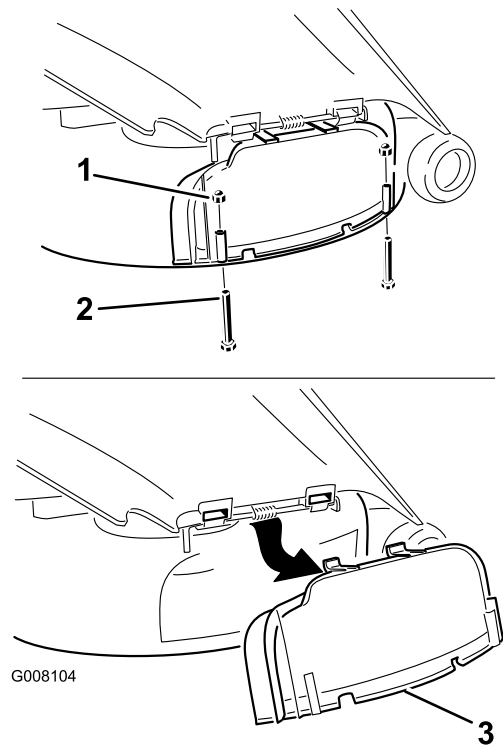

Figure 25
3. Remove the two bolts (1/4 x 2-1/2 inches) and two cap nuts (1/4 inch) that secure the discharge cover to the cutter deck (Figure 25).
4. Remove the discharge cover and lower the grass deflector over the discharge opening as shown in Figure 25.
3. Lift the grass deflector and slide the tabs on top of the discharge cover under the grass deflector retaining rod. Rotate the discharge cover down over the opening, and onto the lower lip of the cutter deck (Figure 25).
4. Secure the discharge cover to the lower lip of the cutter deck with two bolts (1/4 x 2-1/2 inches) and two cap nuts (1/4 inch) as shown in Figure 25.